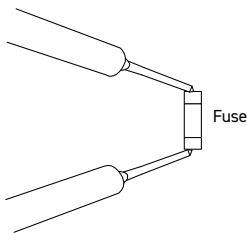

Fig.2
2) Check for continuity by a multimeter as shown in Fig.2.